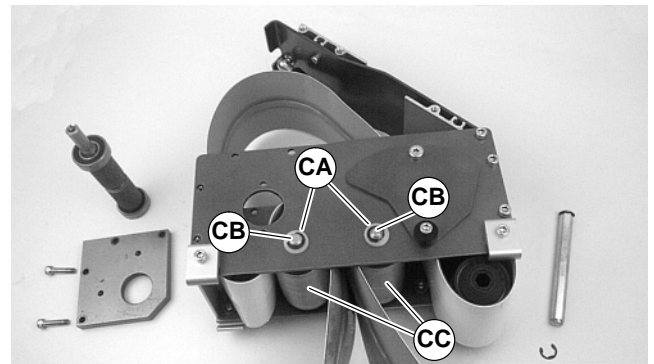

Figure 46
- For 2” (44 mm), 3” (70 mm) or 4” (95 mm) wide conveyor, detach E-ring clips and remove washers (CA of Figure 46). Remove pulley shafts (CB) and pulleys (CC).